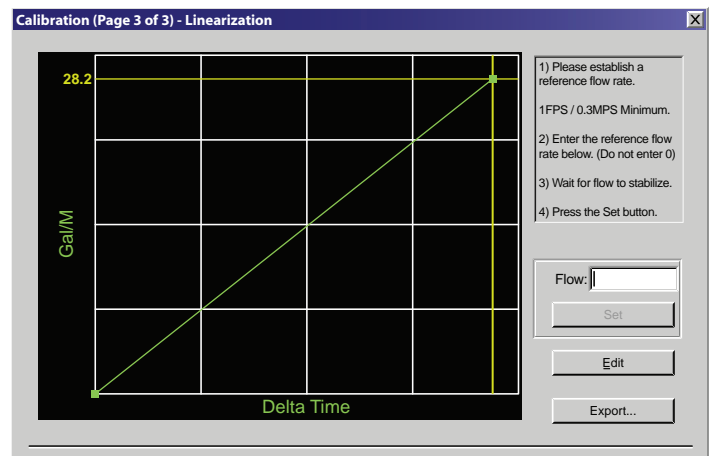

FIGURE 2.8 - CALIBRATION PAGE 3 OF 3
- 3) On the pop-up screen, click **Next** button twice to get to Page 3 of 3. See **Figure 2.8**.
9) Process will return to Page 3 of 3. Click **Finish**. See **Figure 2.8**.